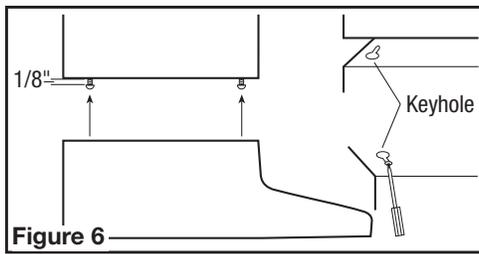

Figure 6
5. Install the 4 mounting screws at the previously marked locations. Leave approximately 1/8" clearance. Slide the hood in place through the keyhole slots and align the front of the hood so that it is flush with the front of the cabinets. Tighten all screws securely (Figure 6).
toutes les vis (Figure 6).